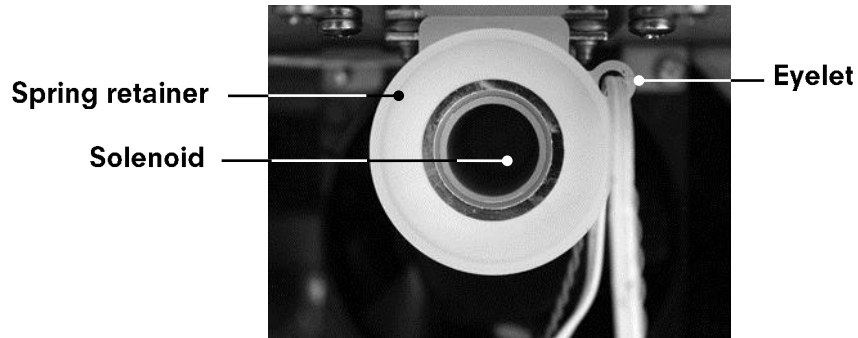

Figure 3
16. Before you reassemble the valve, check to see if there is product buildup inside the solenoid (see Figure 3). If necessary, use a plastic knife and damp cloth to clean the area.